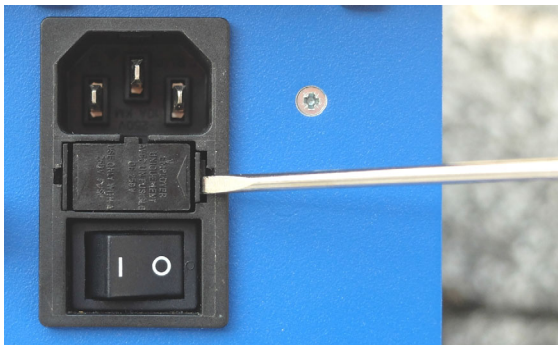

Figure 13-1: Unlocking the locking tongues of the fuse holder
- ▶ Use a small screwdriver to unlock the two locking tongues one after the other as shown in Figure 13-1.